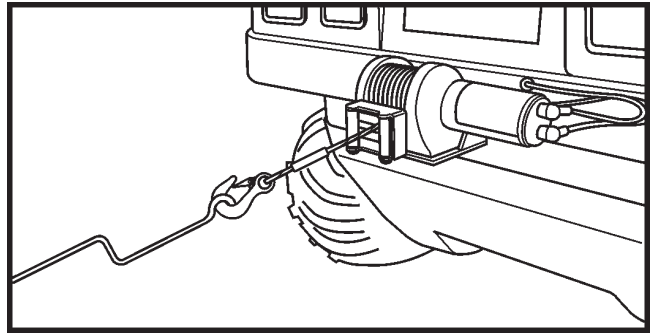

Figure 11-14. Using the Handsaver Bar.
7. Keep clear of winch wire rope and hook when operating winch. Never put your fingers through the hook when reeling in the last few feet of line. If your finger should become trapped in the hook, you could lose your finger. Use the HANDSAVER BAR (Figure 11-14) to guide the hook within the last few feet. Never guide a wire rope onto the drum with your hand.